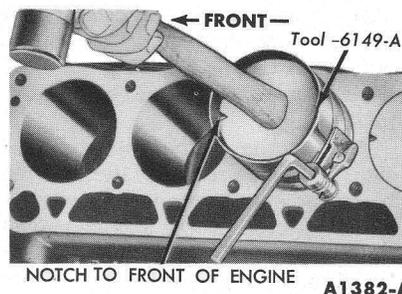

FIG. 60—Piston Installation
4. Make sure the ring gaps are properly spaced around the circumference of the piston. Install a piston ring compressor on the piston and push the piston in with a hammer handle until it is slightly below the top of the cylinder (Fig. 60). Be sure to guide the connecting rods to avoid damaging the crankshaft journals. Install the piston with the notch in the piston head toward the front of the engine.